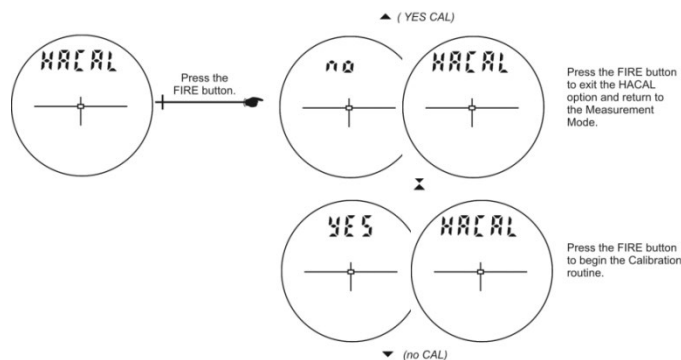

Figure 4. The TruPulse viewfinder during the compass calibration procedure.
8. Place the TruPulse facing magnetic North (within 15 deg of N) on a relatively flat surface, or hold it while maintaining it flat (within 15 deg of level). To calibrate the compass, follow the sequence outlined in **Figure 4** below. The TruPulse provides confirmation after each step in **Figure 4** is completed by displaying the following: